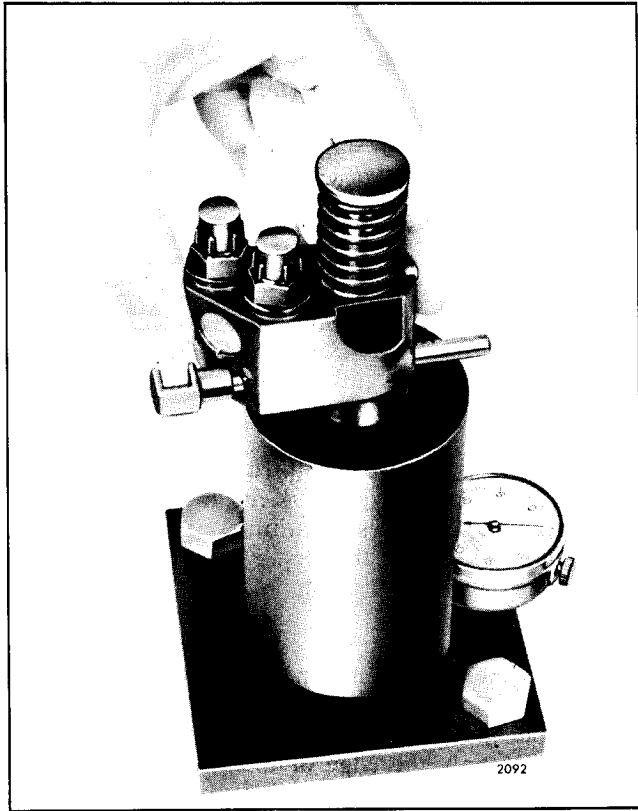

Fig. 36 - Checking Injector Spray Tip Concentricity with Tool J 5119
1. Place the injector in the concentricity gage J 5119 as shown in Fig. 36 and adjust the dial indicator to zero.